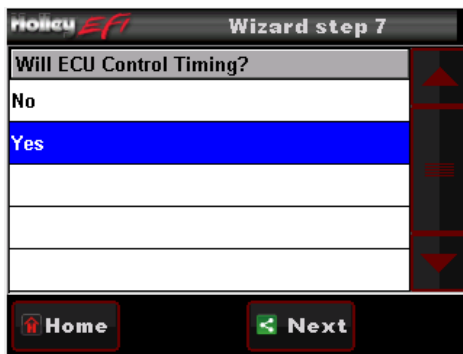

Figure 21
9. Next, you need to select whether the ECU will be controlling the ignition timing (Figure 21). Select “Yes” ONLY if you are using a GM small cap computer controlled HEI distributor or Ford TFI distributor. These are the only ignition distributors that allow the ECU timing control using the TERMINATOR™ system. All other ignition/distributor types must be a standard mechanical advance type used on any carbureted application. If you select “Yes”, proceed to step 10. If you select “No”, proceed to step 11.